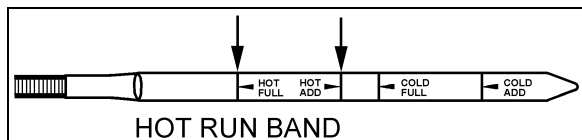

FIGURE 6: HOT CHECK 07049
2. Park the vehicle on a level surface and shift to Neutral (N). Apply the parking brake and allow the engine to idle (500 - 800 rpm).
5. If the level is **not** within this band, add or drain fluid as necessary to bring the level within the HOT RUN band. (Fig. 6).